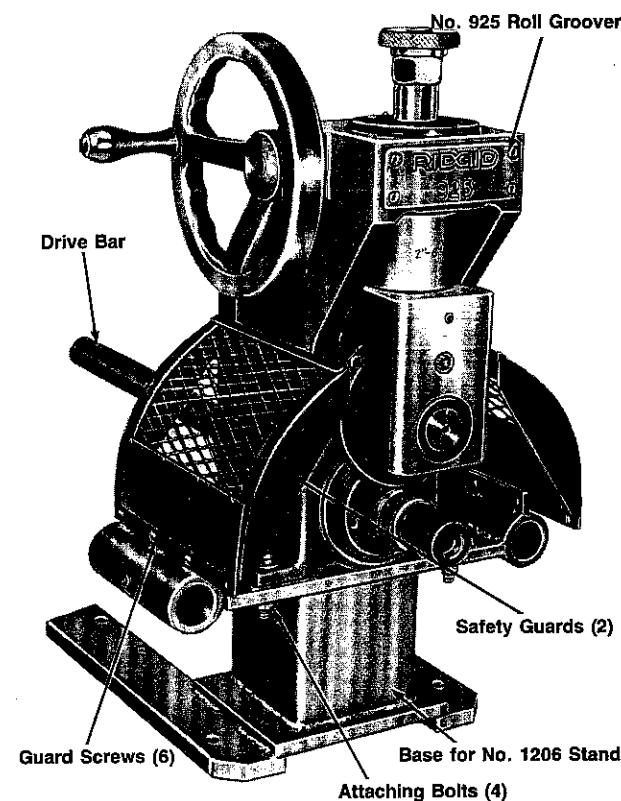

Figure 15. No. 925-1 Subassembly
1. For 925 Type III drive out Roll Pin and install Handwheel on other side of Shaft (Figures 15 and 25).